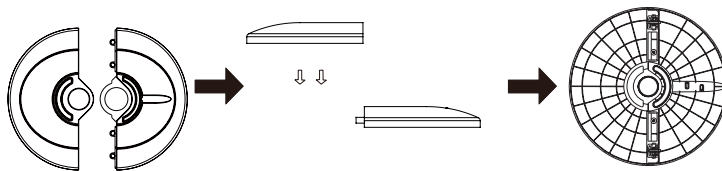

Fig.2
- ◆ Unscrew the plastic nut from the body (Fig. 2)